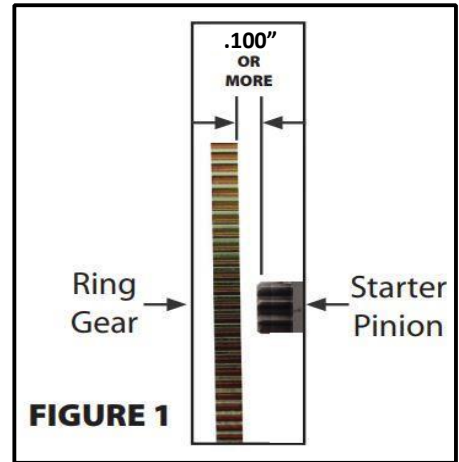
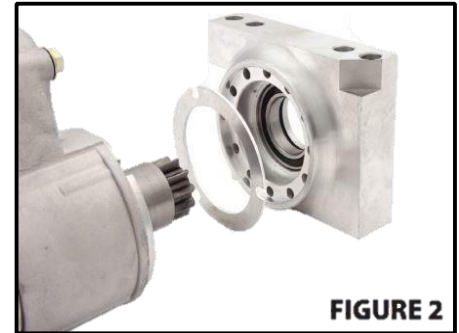
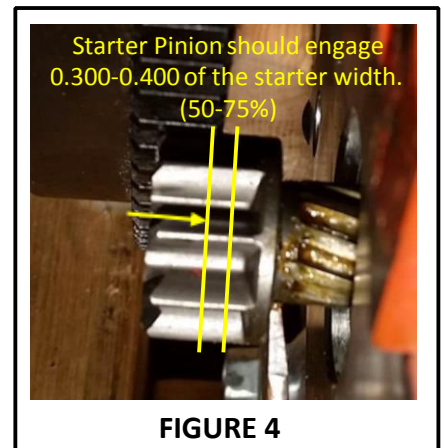

FIGURE 1
FIGURE 2
FIGURE 4
- FITMENT:** Check starter for clearance against oil pan and exhaust. If you encounter any interference re-clock the starter by removing the 3 hex head bolts. The starter can now be reattached in any combination of the 11 mounting holes (Figure2) and retightened to 50 in/lbs. You can now install the provided starter mounting bolts and torque to 32 ft/lbs. We do not recommend heat wraps on our starters, however a custom heat shield with air gap between unit and exhaust is optional.
- PINION CLEARANCE:** There should be a minimum of .100" clearance between the pinion gear and ring gear (Figure1). This can distance can be larger than .100" as long as the starter pinion engages properly. Proper engagement is when the pinion gear is engaged 50-75% of the ring gear width (Figure 4). If your engagement is too shallow, you can remove the preinstalled inner shim (See Figure 2). This will allow the pinion gear to engage 0.065 deeper.